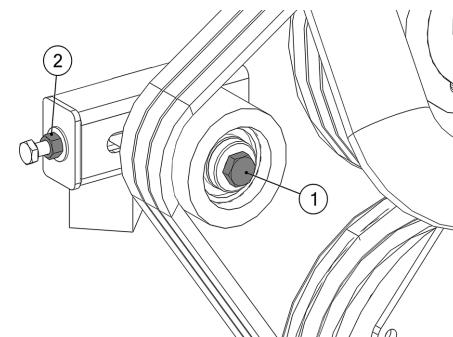

Figure 23 - Tensioner Pulley Assembly
2. Use a 19 mm spanner to loosen the bolt in the centre of the tensioner pulley until the pulley is able to slide with minimal wobble (Figure 23, Item 1).
3. Turn the nut on the end of the tensioner pulley slider until the correct belt tension is achieved (Figure 23, Item 2). (Refer to Section 6.11 "V-Belt Tensioning Procedure" on page 46.)